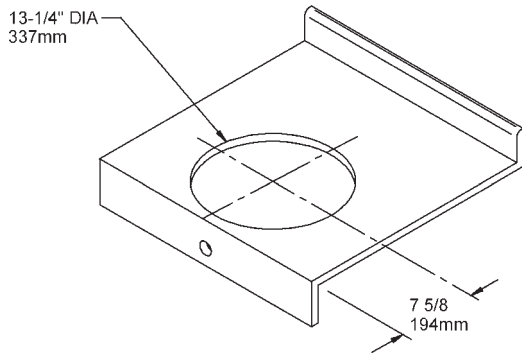

Figure 1
1. Make 13-1/4" (337mm) diameter cutout in desired location on countertop. Maintain the 7-5/8" (194mm) dimension from the front edge for ADA compliance. (See Figure 1)